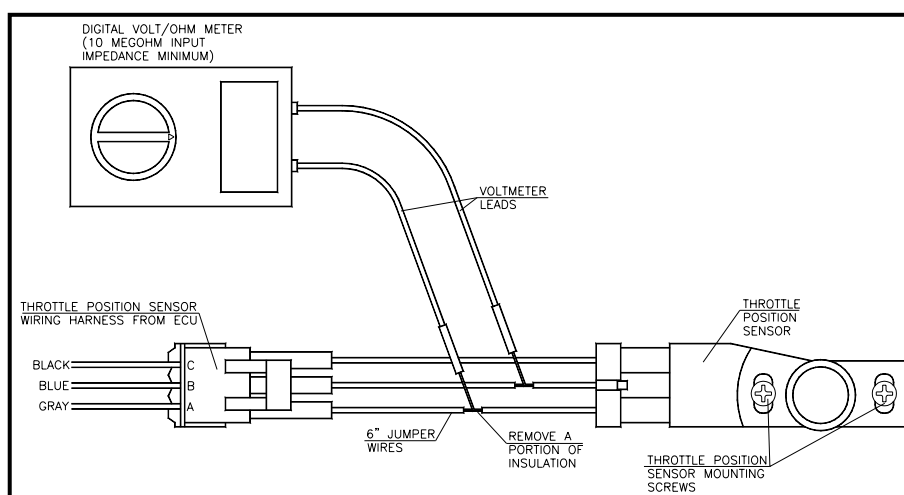

Figure 12
- 1 - Disconnect the three position connector from the TPS and install three jumper wires as shown in Figure 12.